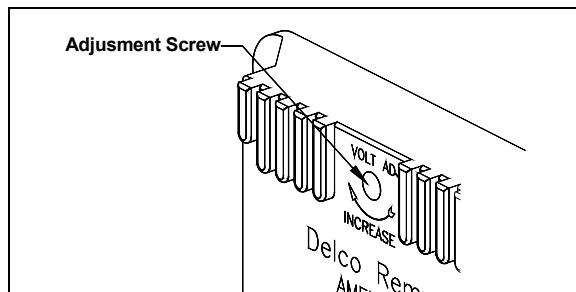

FIGURE 32: ADJUSTING REGULATOR VOLTAGE SETTING
4. If not, the desired setting can be obtained by removing the plug from the voltage regulator cover and slightly turning the adjusting screw inside the regulator. Turn the adjusting screw clockwise to increase the voltage setting or counterclockwise to decrease it. See Figure 32 for details.
Resistor R2 = Turn voltage adjustment screw (identified in Figure 32) with ohmmeter connecting each way. Reading should change as slotted screw is turned. If not, replace R2.